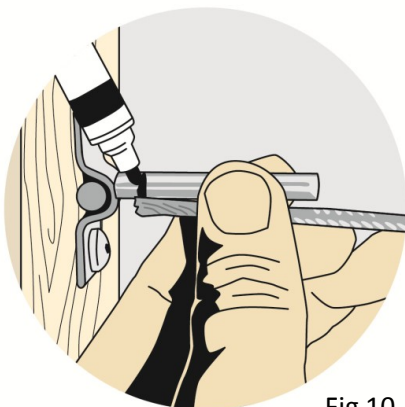

Fig 10
- a) Insert a piece of cable into the installed Surface Mounted Fitting and mark on the fitting that indicates how far the cable penetrates (Fig. 10).